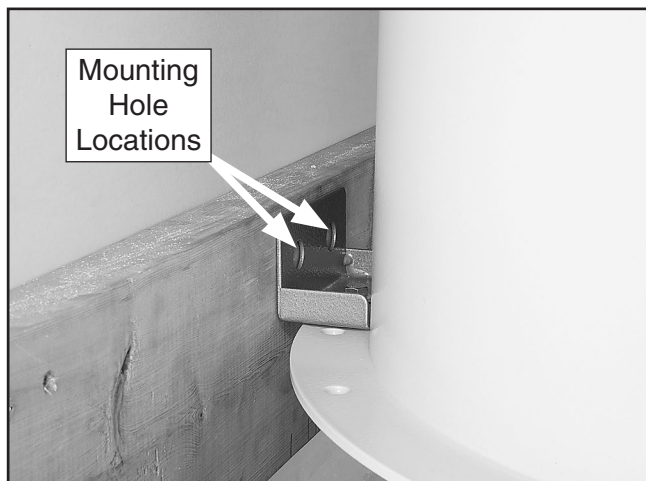

Figure 13. Intake barrel brace positioned to mark the mounting holes.
5. Place the intake barrel brace in position and mark the location of the mounting holes (shown in **Figure 13**) with a small pencil, nail, or push pin.